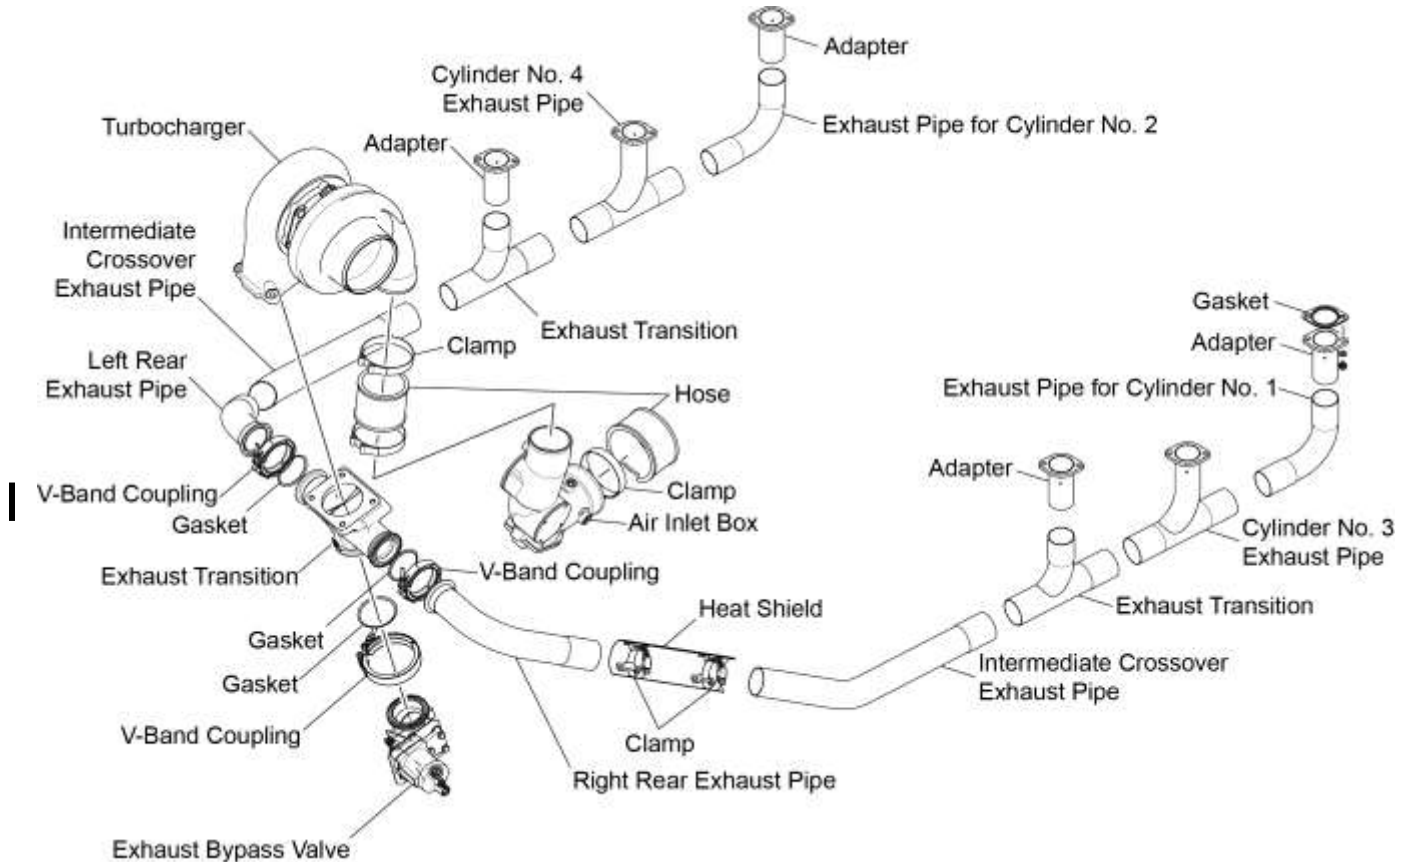

Figure 1
- A. The turbocharger has two sides, a turbine side and a compressor side. Exhaust gas continuously passes through the turbine side of the turbocharger and turns the turbine within the turbocharger. The rotating turbine compresses air that flows through intake pipes on the compressor side of the turbocharger. The air becomes pressurized and is discharged into the inlet pipe to the air inlet box (Figure 1). The exhaust gas is discharged through exhaust outlet pipe attached to the turbocharger.
- B. An exhaust bypass valve (Figure 1) at the exhaust transition at the rear of the engine controls the amount of exhaust gas flow. This valve is controlled by an actuator. The actuator is activated by a solenoid.
- B. Make sure all connections in the exhaust system at the turbocharger V-band couplings (Figure 1) are tight and do not have air leaks. Examine the tightness of the V-band coupling on the turbocharger by inserting a screwdriver in the space made by the hinged latch of the coupling. Try to turn the coupling using a force of approximately 20 ft.-lb. (27 Nm). If the clamp does not turn, measure the torque of the self-locking clamp nut by tightening it to the torque in the Special Torque Requirements Tables in Part 1, Section V in the latest revision of the *Service Table of Limits - SSP-1776*. If the clamp turns, remove it, clean it, and examine it for cracks or distortions. Re-use or replace the clamp as necessary.
- C. Repeat the previous step for the V-band couplings that attach the exhaust bypass valve (Figure 1).